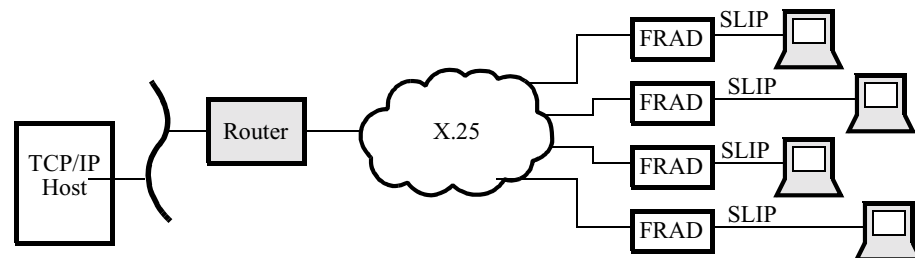

Figure 1. SLIP with RFC 1490
- It offers SLIP to TCP/IP using RFC 1490 Frame Relay encapsulation, as shown in Figure 1, which illustrates a network with remote PCs accessing an IP host off a router.